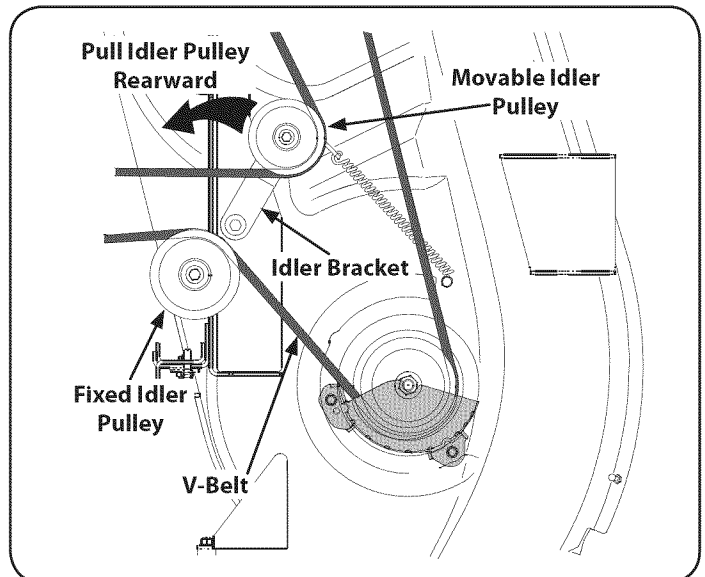

Figure 36
- b. Working from the middle of the riding mower, pivot the idler bracket and movable idler pulley rearward away from the backside of the 'V' belt just far enough to lift the belt up and over the idler pulley. See Figure 36.
7. Raise the deck lift arms out of the rear hanger bracket slots by raising the deck lift handle on the riding mower to its highest position. Refer to Figure 36.
- c. Route the backside of the belt around the fixed idler pulley of the deck. Refer to Figure 36.
- d. Working from the middle of the riding mower, pivot the idler bracket/movable pulley rearward against the spring tension and slide the backside of the belt onto the movable idler pulley. Refer to Figure 36.
- d. Pull the right side of the belt rearward and place the narrow V side of the belt into the PTO pulley. See Figure 36.